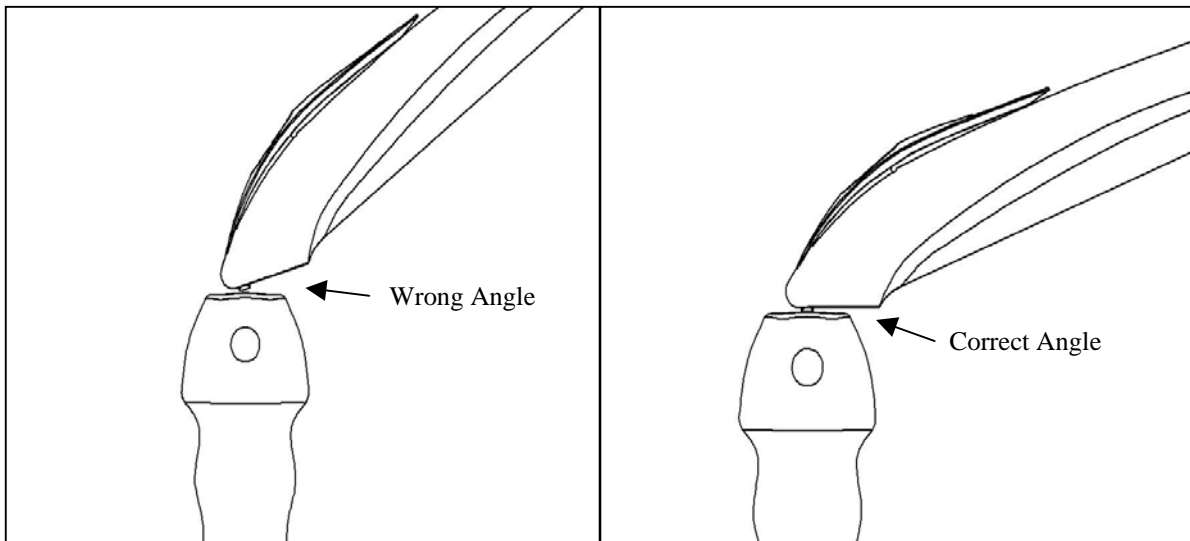

Figure 4
- Proper alignment of the Nickel transducer to the transducer under test is vitally important for a good test. The Nickel transducer should be parallel with the elements within the array under test and angled in such a manner as to be in full contact with the face of the array. **SEE FIGURE 4**
- Place the Nickel on the center of the aperture of the active probe under test (as shown in Figure 4), obtain a good signal and then slowly scan across the face of the transducer while keeping the On/Off switch on the Nickel depressed and maintaining light and consistent pressure.